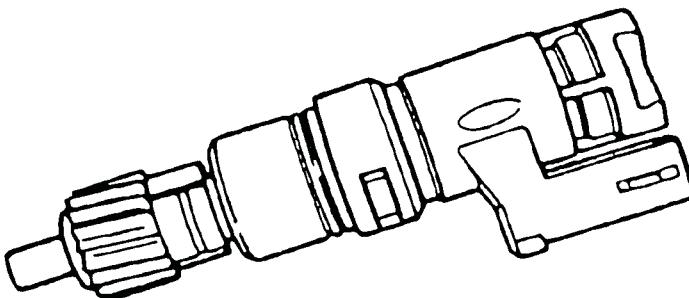

Figure 28
The ECA processor is not capable of putting this transmission into a fail safe or a limp-in mode if it detects an electrical problem. It will however, cause the transmission to malfunction and store a service code which can be retrieved with a scanner. The diagnostic connector the scanner uses is located under the hood. If a scanner is not available, this diagnostic connector can be jumped to flash the service codes (refer to page 24 and figure 18 for assistance in jumping the diagnostic connector). There are two digit codes for 89 to 90 vehicles and three digit codes for 91 and up. Figures 28 through 37 provide a description of each input, its function, the symptoms that can be caused, and the service codes it can produce. Page 40 provides a quick overview of all service codes.
**Description:** The vehicle speed sensor is a variable reluctance sensor that sends a signal to the processor assembly. This VSS signal tells the processor assembly the vehicle speed in MPH (Figure 28).